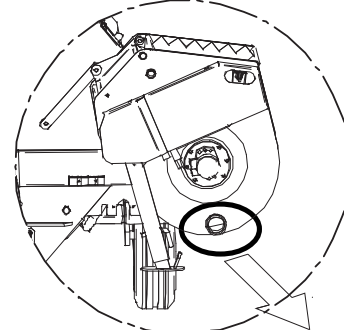

Fig. 11
- Empty the mixing machine by removing the plug (Fig. 11) or emptying it in the hopper.